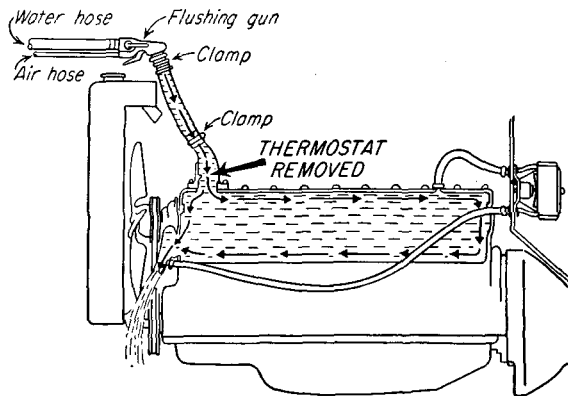

FIG. 14-14. Reverse-flushing engine water jackets.
4. *Flushing engine water jackets.* Engine water jackets also may be straight-flushed or reverse-flushed. Some engine manufacturers warn that seals and other engine parts may be damaged if their engines are reverse-flushed. Make sure the specifications permit reverse flushing before doing the job. To reverse-flush, remove the thermostat and attach the flushing gun to the thermostat housing with a short length of hose (Fig. 14-14). The illustration does not show a leadaway hose from the water-pump inlet, but to avoid getting water all over the engine, it is best to use a leadaway hose.